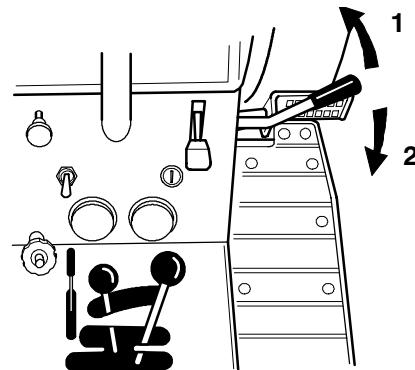

Figure 21
- Push the power take off (PTO) lever forward to engage (Fig. 21).
- Pull the power take off (PTO) lever back to disengage (Fig. 21).